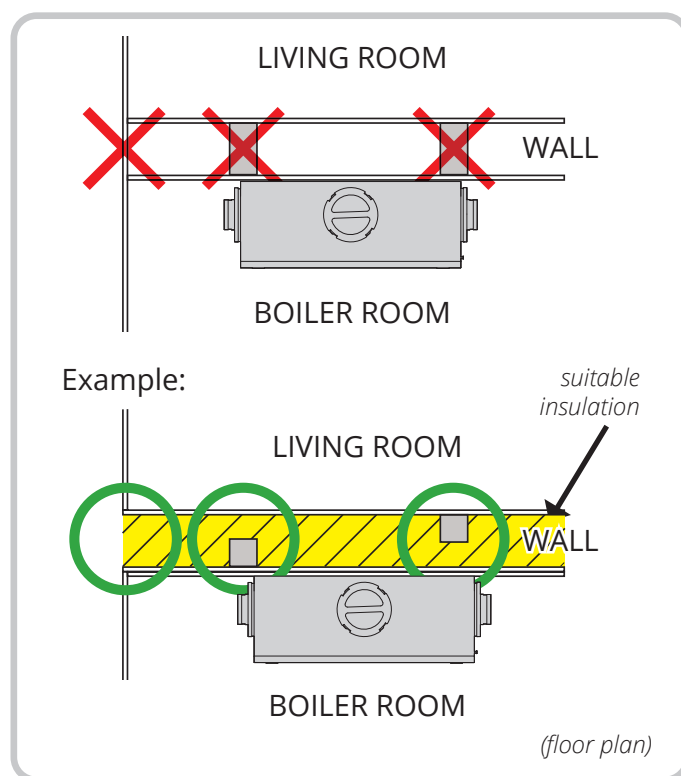

Figure 4 Wall construction
- Location of the unit on an internal wall requires sound insulation of the wall, interrupted studs and boards, and double plasterboard or a wall structure of similar quality. See Byggforsk Construction Detail Sheet 524.325 (Sound insulation properties for lightweight internal walls.) See also Figure 4 Wall construction. If located on external walls, interrupted boards against adjacent rooms are recommended.
The unit can only be installed to hang on a wall (wall mounting and screws are supplied), see Fig. 4.